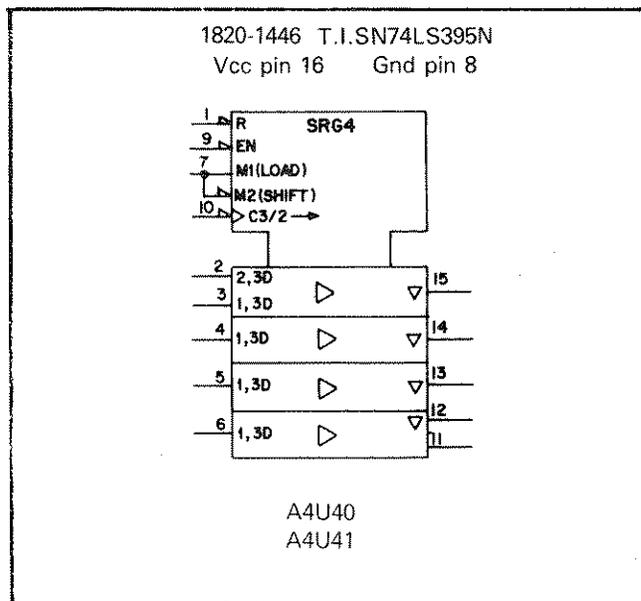

Figure B-18. Shift Register
**Shift Register.** Figure B-18 shows a four-bit shift register. In mode 1, data is parallel loaded into the four registers (pins 3,4,5,6) when the C input is low. In mode 2, data is serial loaded into the first register (pin 2) when the C input is low. Note that the C input also shifts data from the first register to the second, etc. when in mode 2 (2→ indicates that the shift function is dependent on mode 2). When enable is inactive (high), 3-state outputs are high impedance, but sequential operation of the registers and the output at pin 11 (cascade output) are not affected.